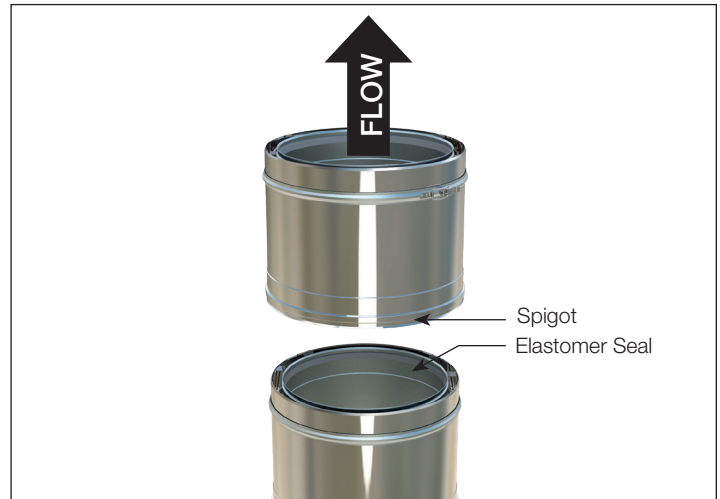

Fig 1-1: Flow direction
1. EPSC+ is always installed with the female spigot of the liner facing towards the termination and the male end of inner liner facing towards the appliance. The product label includes an arrow pointing away from the appliance. See Fig. 1-1